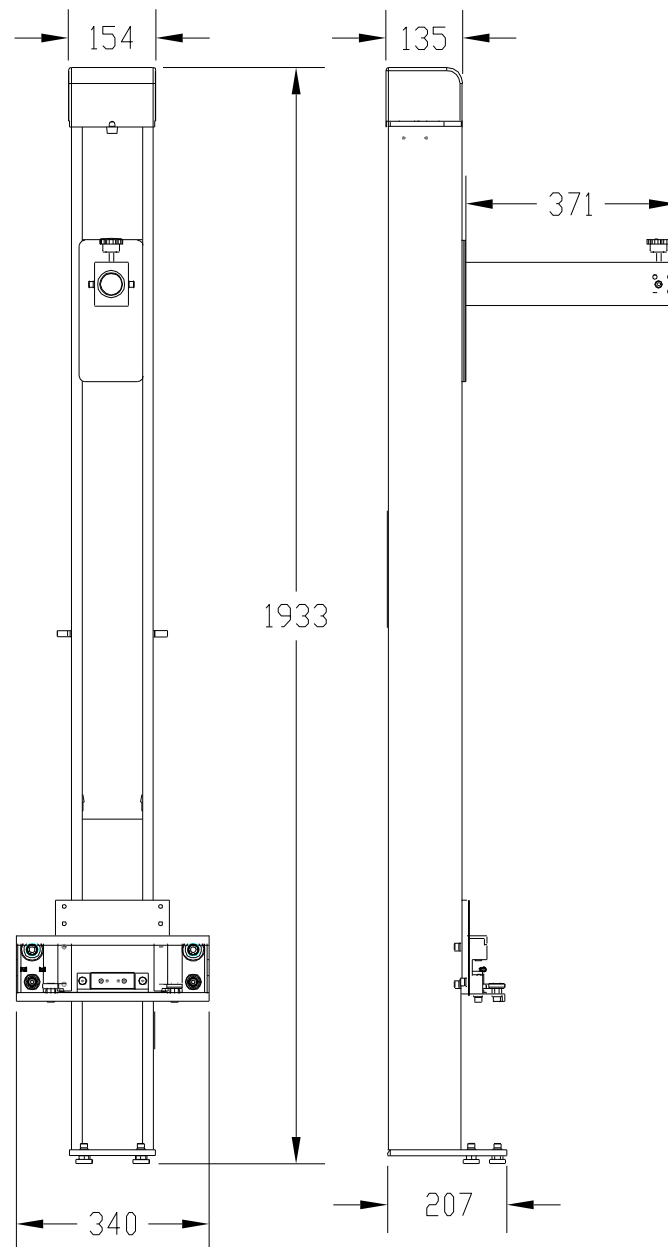
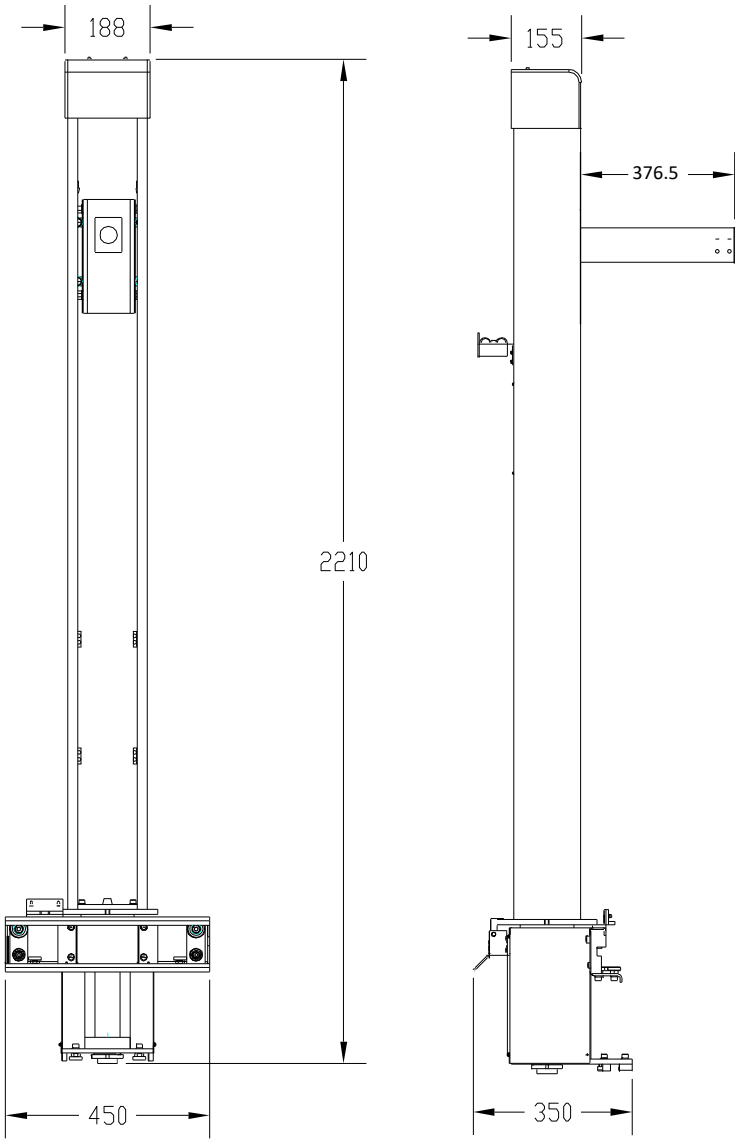

Figure 5-13 Tube Stand (Basic)
Figure 5-14 Tube Stand (Standard)
- Integrated Tube Stand - Figure 5-13 through Figure 5-14.